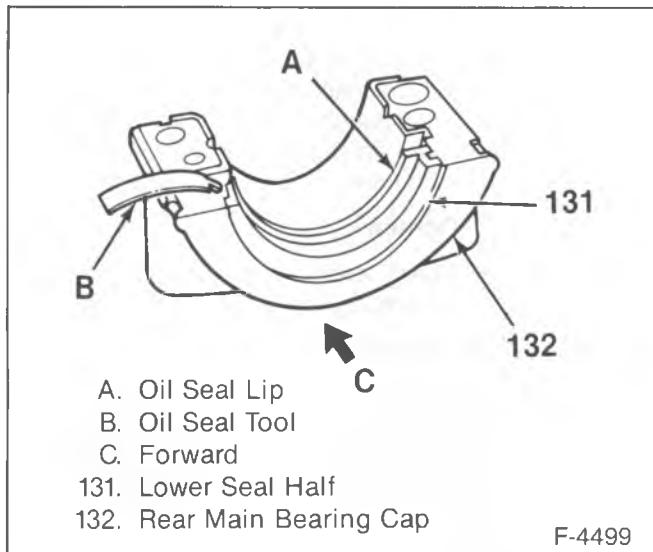

Figure 52—Crankshaft Rear Oil Seal Installation
- Lower seal (131) (figure 52).
- Insert the seal half into the rear main bearing cap (132). Use the tool to protect the seal half from the sharp edge of the seal seat. Feed the seal half into the rear main bearing cap, using light finger pressure. Make sure the oil lip faces the front of the engine.